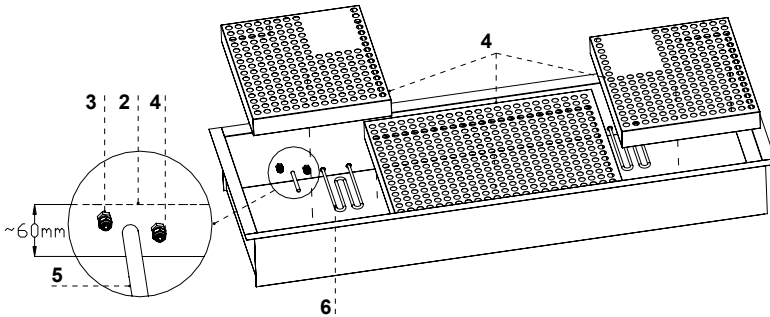

Fig.9 Bain-marie tank
- Fill bain-marie tank with proper amount of clean water Fig.9/2 (p.12)
- Place heater screens in bain-marie tank Fig.9/1 (p.12)